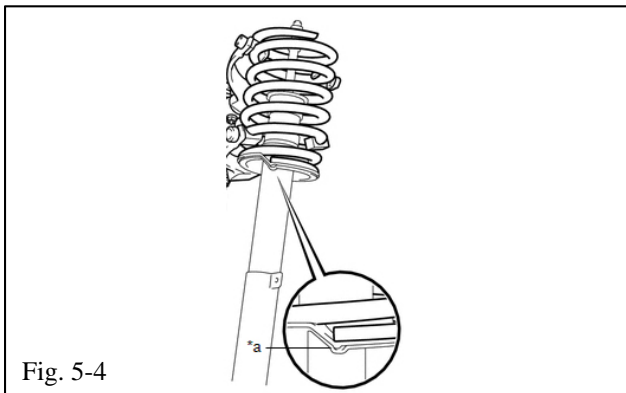

Fig. 5-4
- (h) Confirm that the end of the spring sits in the stepped portion (\*a) of the lower spring seat (Fig. 5-4).